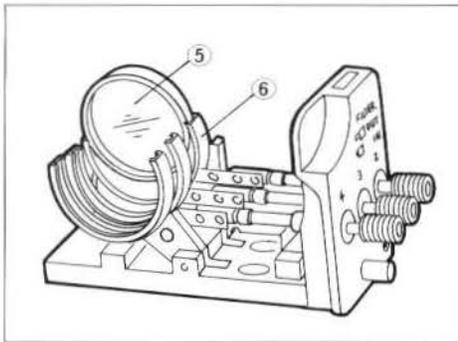

Fig. 17
2. Place the filters ⑤ into the filter holders ⑥. (Fig. 17)